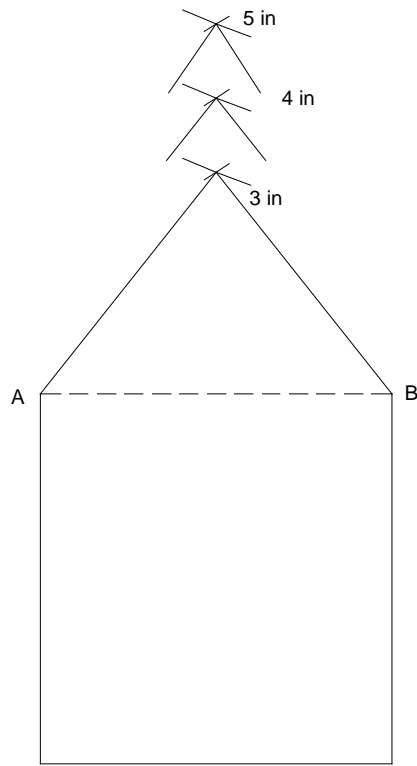

Figure 8.7
6. Every 4" section will support a gabled roof, but what will be the slope or angle of the roof? For the purpose of simplification, we want a slope that will be easy to work with, so we must decide if we want a tall, steep roof, or one with a more gradual incline. Your compass can help you with this decision. Let's look at a close-up of one side of the house. See **Figure 8.7**.